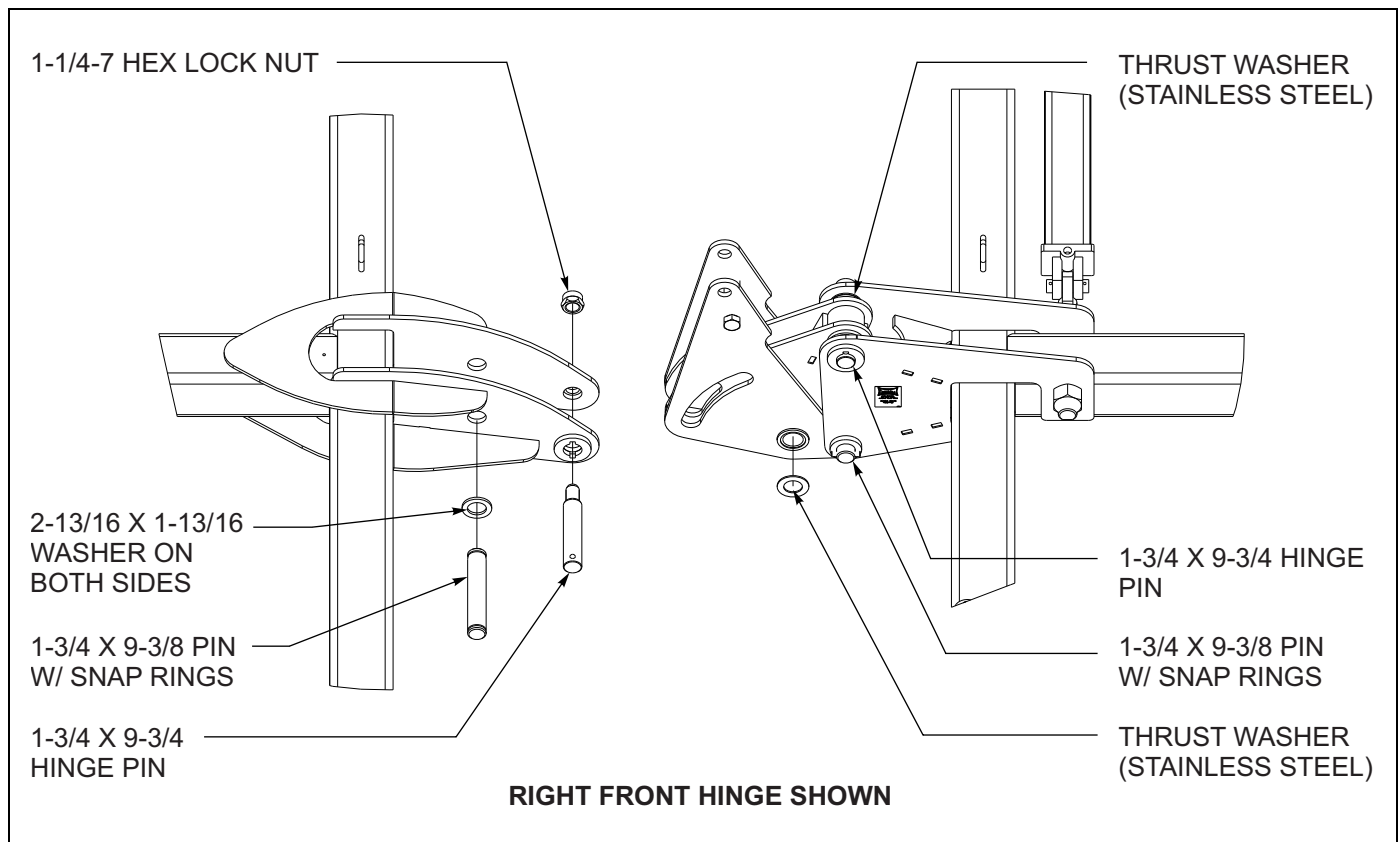

Figure 3-11: Outer Wing Frame Hinge Assembly
1. Assemble the outer wings to the inner wing frames as shown. Install the double hinge and locks to inner wings with the upper thrust washer to the rear of the machine using hinge pins and 1-1/4-7 hex lock nut (See Figures 3-11 and 3-12.) Install the bottom wing lock pins on the inner wings using 1-3/4 x 9-3/4 pins with snap rings. Install two fold links per hinge, placing them over the bushing of the double hinge and locking them to the bottom pin. Insert 1-8 x 6-1/2 hex head cap screw, wing fold spacer, and 1-8 hex lock nut to keep fold links stable while installing outer wing.